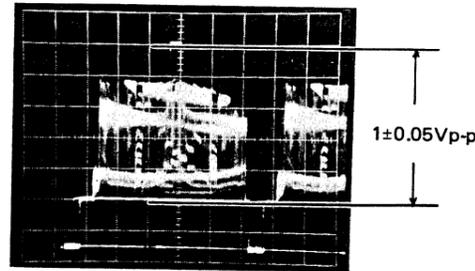

Fig. 11
- Turn BEAM VR201 so that the signal level is 1 ± 0.05 Vp-p. (Fig 11)